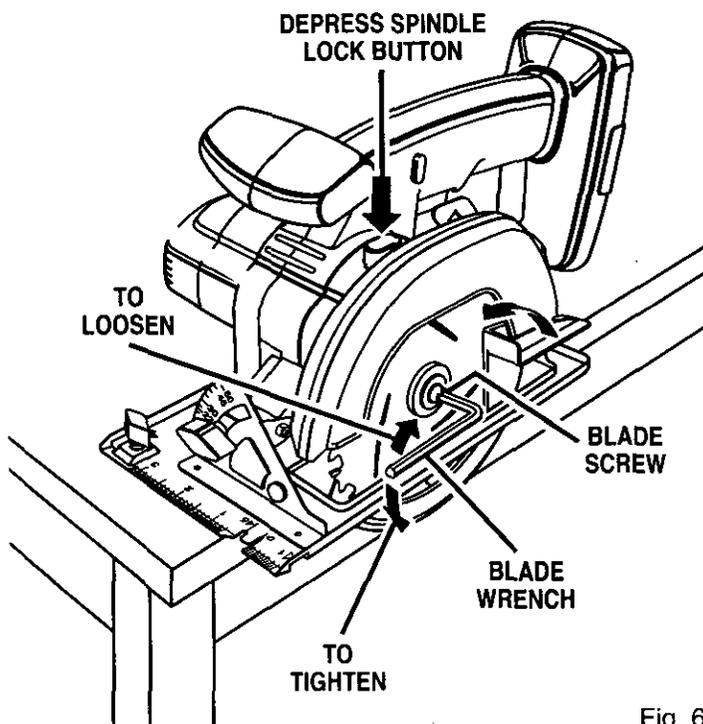

Fig. 6
See Figure 6.
- Position saw as shown in figure 6, depress spindle lock button, and remove blade screw.